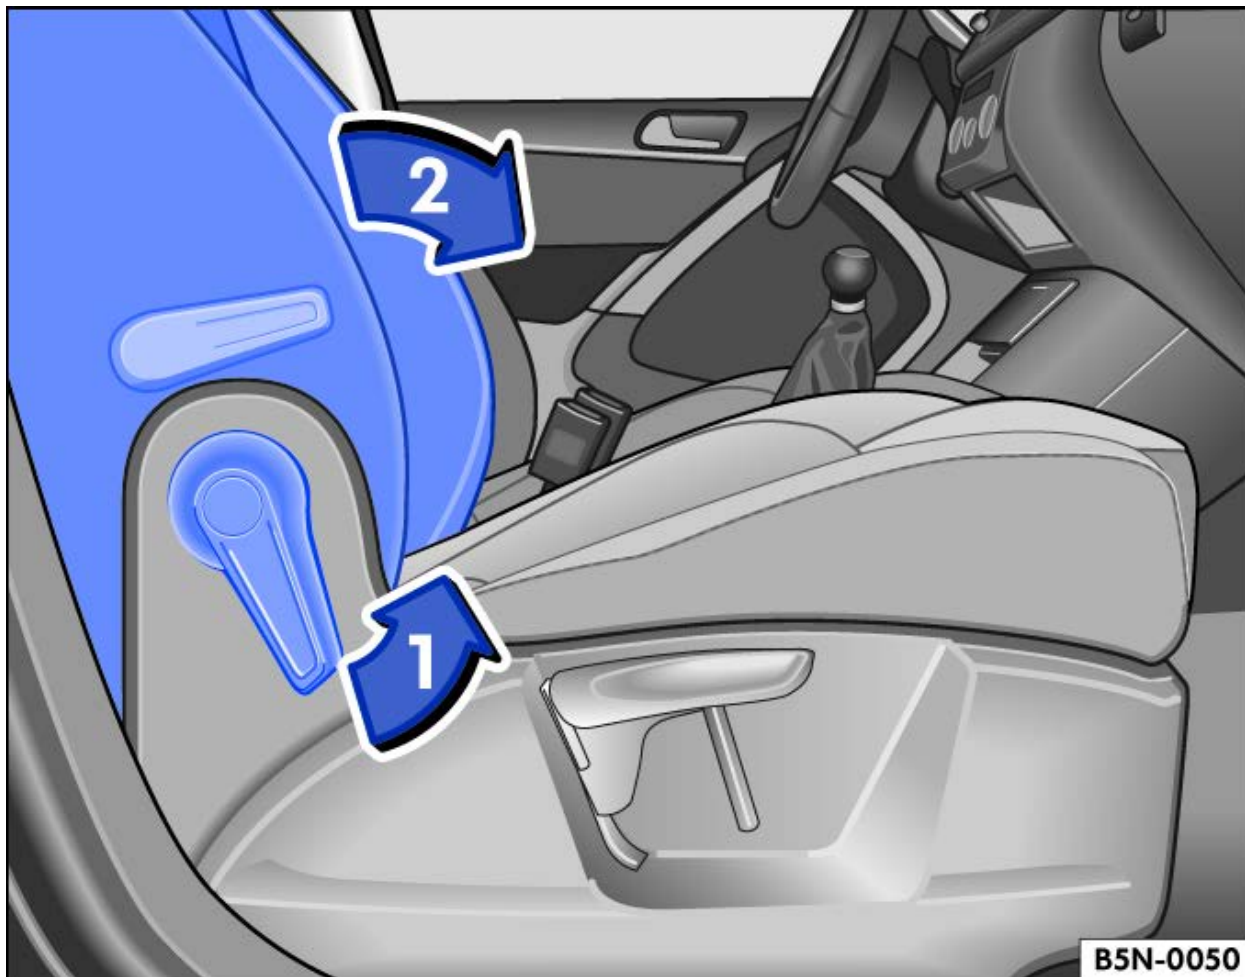

Fig. 1 Front passenger seat: Fold backrest forwards.
- Unlock the front passenger backrest in the direction of the arrows → *fig. 1* (1).
- Fold the front passenger backrest forwards in the direction of the arrows → *fig. 1* (2) into the horizontal position. The front passenger backrest must engage securely in the folded down position.